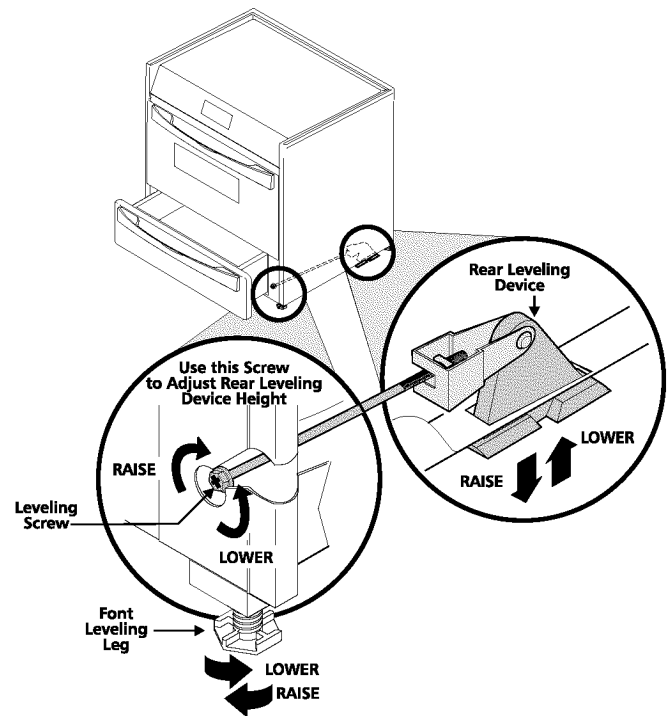

Figure 7
9. **Level the range** (figure 7). **The floor where the range is to be installed must be level.** Follow the instructions under "Leveling the Range-Models Equipped with Leveling Device"
2. Adjust the appliance legs as follows until the underside of the cooktop surface is sitting level on the countertop (Figure 7).